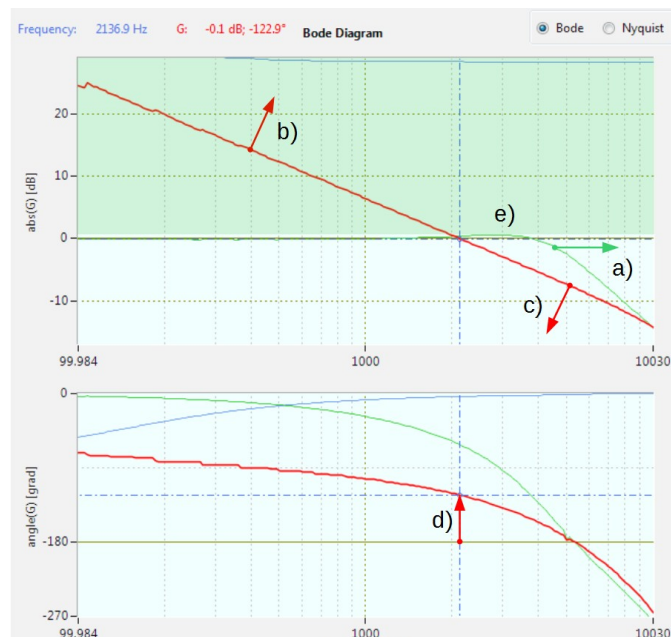
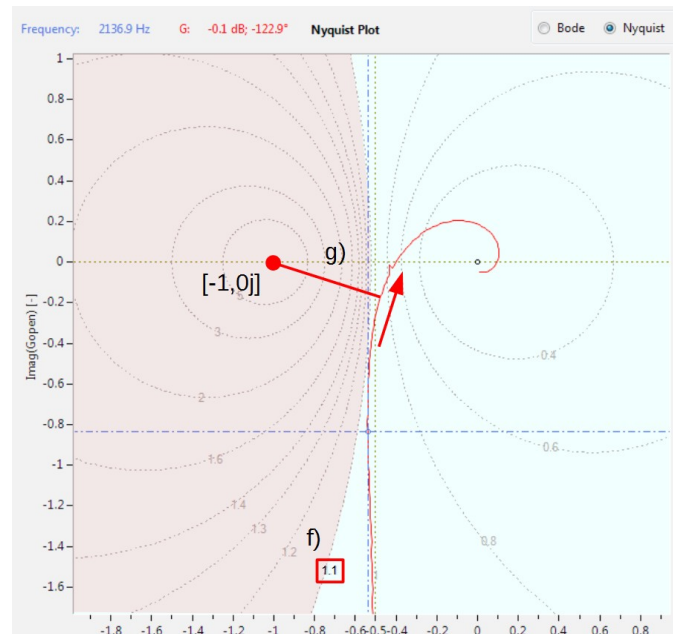

Figure 50: Tuning criteria in Bode view for the current controller.
Figure 51: Tuning criteria in Nyquist view for the current controller.
The goal for the tuning is to get a stable controller with the following characteristics (see also Figure 50 and Figure 51):
Tuning criteria in **Nyquist** plot view (Figure 51):
⁷ The phase-margin is the difference between the phase-angle of a transfer function $G_o(f_{gc})$ at the frequency f_{gc} where the amplitude of $H_o(f_{gc})$ crosses 0dB and -180° . See d) in Figure 50.
2. With the cross-hair search the frequency f_{gc} where $H_o(f_{gc})$ has a phase margin of 60° (Figure 50, marker d)).
1. In the Bode View place the cross hair at the frequency f_{gc} where the angle of the open loop transfer function $H_o(f_{gc})$ (red line) has the desired phase margin e.g. 60° (see Figure 50, marker d)).